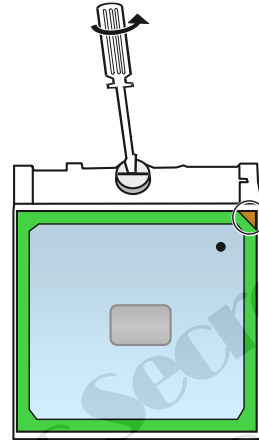

Figure 2-7 Remove the CPU
4. To remove the existing CPU, loosen the screw by a flat screwdriver, upraise the CPU socket to unlock the CPU. (Figure 2-7)